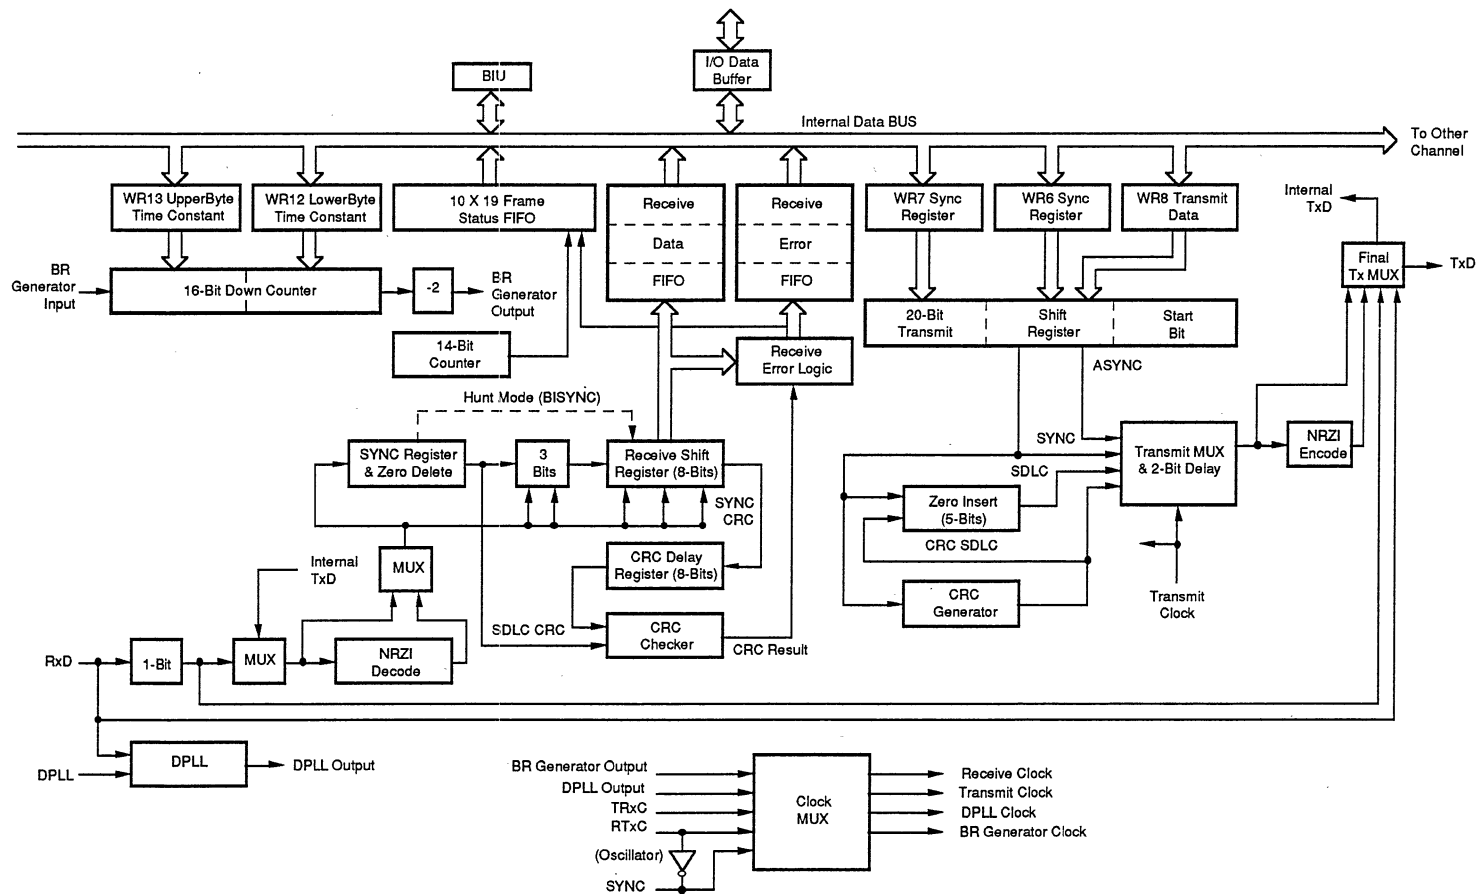

Figure 8. Data Path
**Data Path.** The transmit and receive data path illustrated in Figure 8 is identical for both channels. The receiver has three 8-bit buffer registers in a FIFO arrangement, in addition to the 8-bit receive shift register. This scheme creates additional time for the CPU to service an interrupt at the beginning of a block of high speed data. Incoming data is routed through one of several paths (data or CRC) depending on the selected mode (the character length in Asynchronous modes also determines the data path).